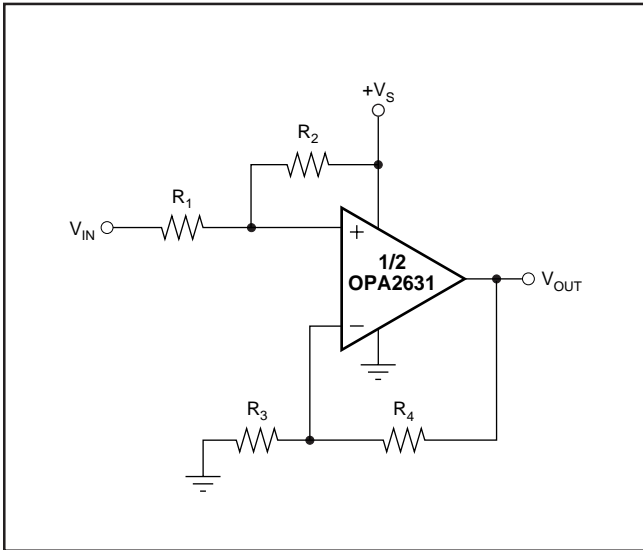

FIGURE 5. DC Level Shifting Circuit.
Figure 5 shows a DC-coupled non-inverting amplifier that level-shifts the input up to accommodate the desired output voltage range. Given the desired signal gain (G), and the amount  $V_{OUT}$  needs to be shifted up ( $\Delta V_{OUT}$ ) when  $V_{IN}$  is